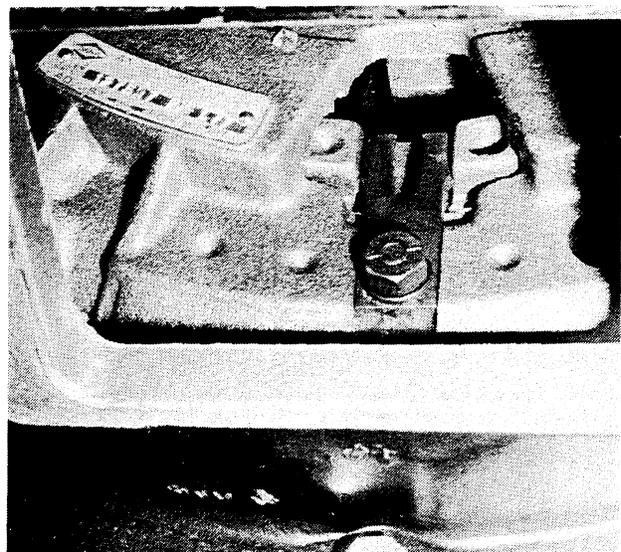

Figure 6:
6. Temporarily reinstall pin into the rod clevis (this is necessary to "release" the clutch before the adjusting ring can be turned). Remove the ring lock strap from the clutch assembly (see Fig. 6).